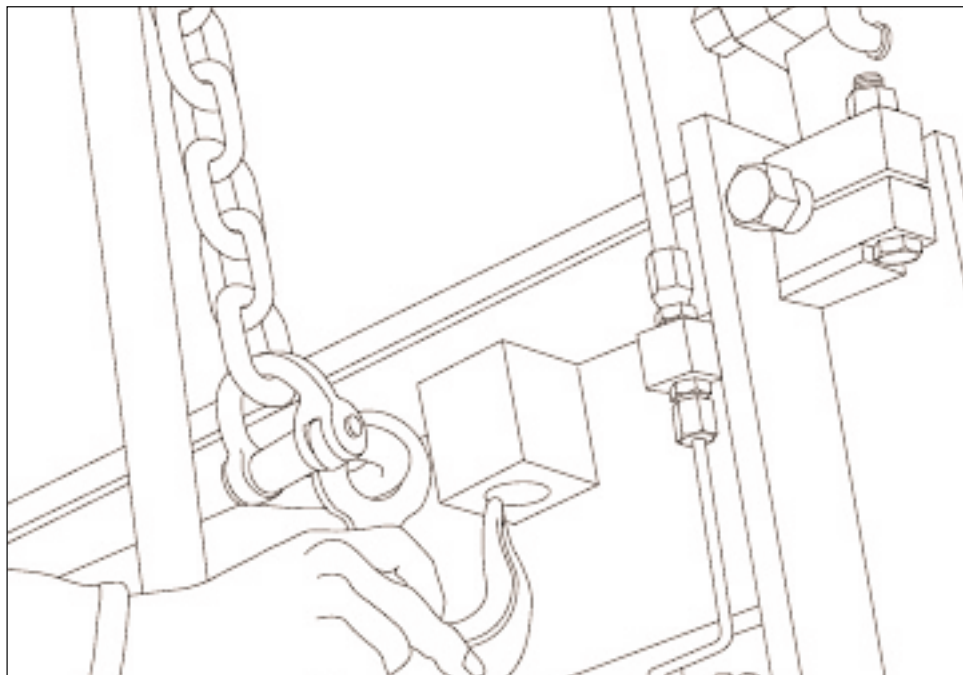

Figure 5.9 ATTACHING STRIPPER HEAD FRAME WITH SAFETY CHAIN.
- 5.4.2 Jog the machine until the stripper head is high enough to hook up safety chain but before the feedbox starts forward (figure 5.9).
- 5.4.4 Hook safety chain to stripper head frame (see figure 5.9).